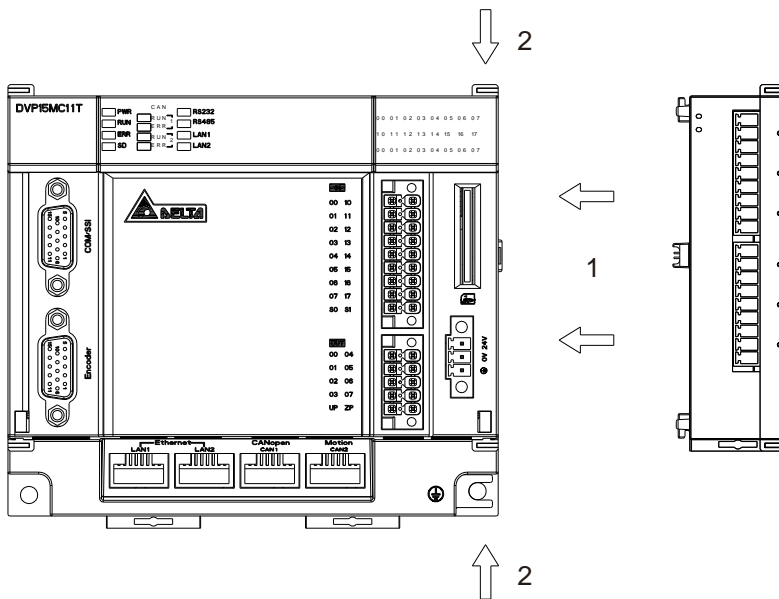

Figure 5.1.4.1
- Pull open the extension module clips on the top right and bottom right of DVP15MC11T and install DVP16SP11T along four mounting holes in the four angles of DVP15MC11T as step 1 in figure 5.1.4.1.
- Press the clips on the upper right and bottom right of DVP15MC11T to fix the module tightly and ensure that their contact is normal as step 2 in figure 5.1.4.1